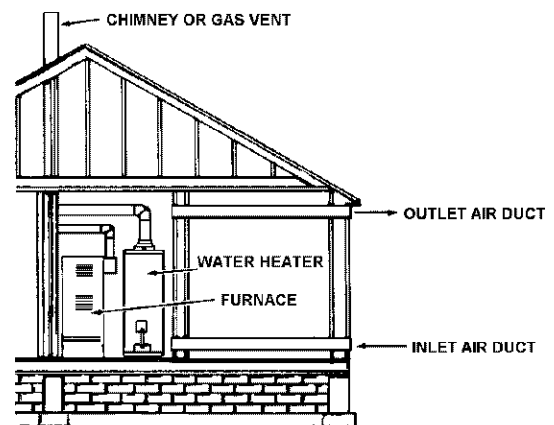

FIGURE 13.
- When communicating with the outdoors through horizontal ducts, each opening shall have a minimum free area of 1 square inch per 2,000 BTU per hour (11 cm2/kW) of total input rating of all equipment in the enclosure, see Figure 13.
- When ducts are used, they shall be of the same cross-sectional area as the free area of the openings to which they connect. The minimum short side dimension of rectangular air ducts shall not be less than 3 inches (76.2 mm), see Figure 13.